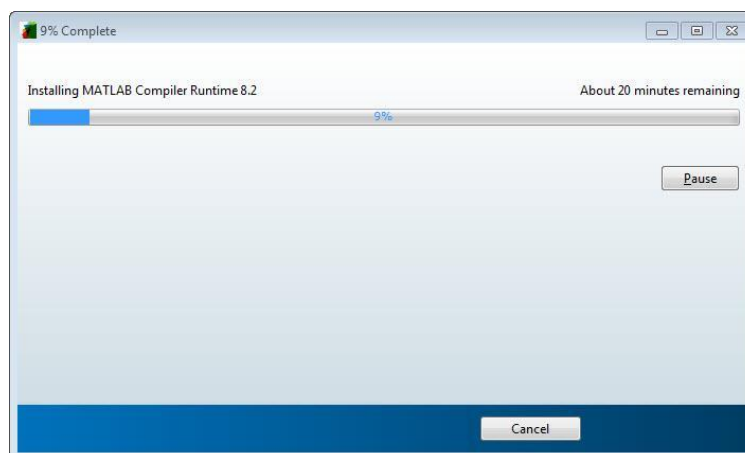

Figure 2-7 % Complete Dialog
- The installation process may take fifteen or more minutes. A **% Complete** dialog (Figure 2-7) displays the progress of the installation.